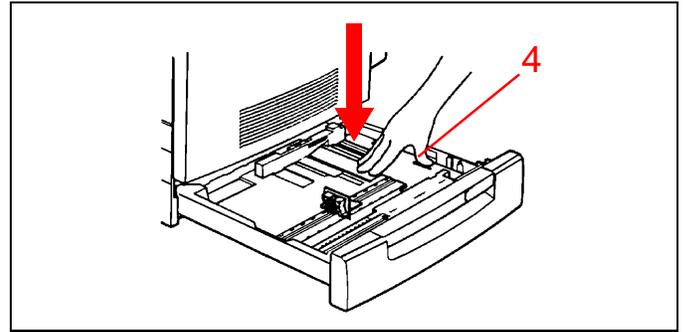

Figure 9
4. See Figure 9. Press down on the metal plate until it latches.